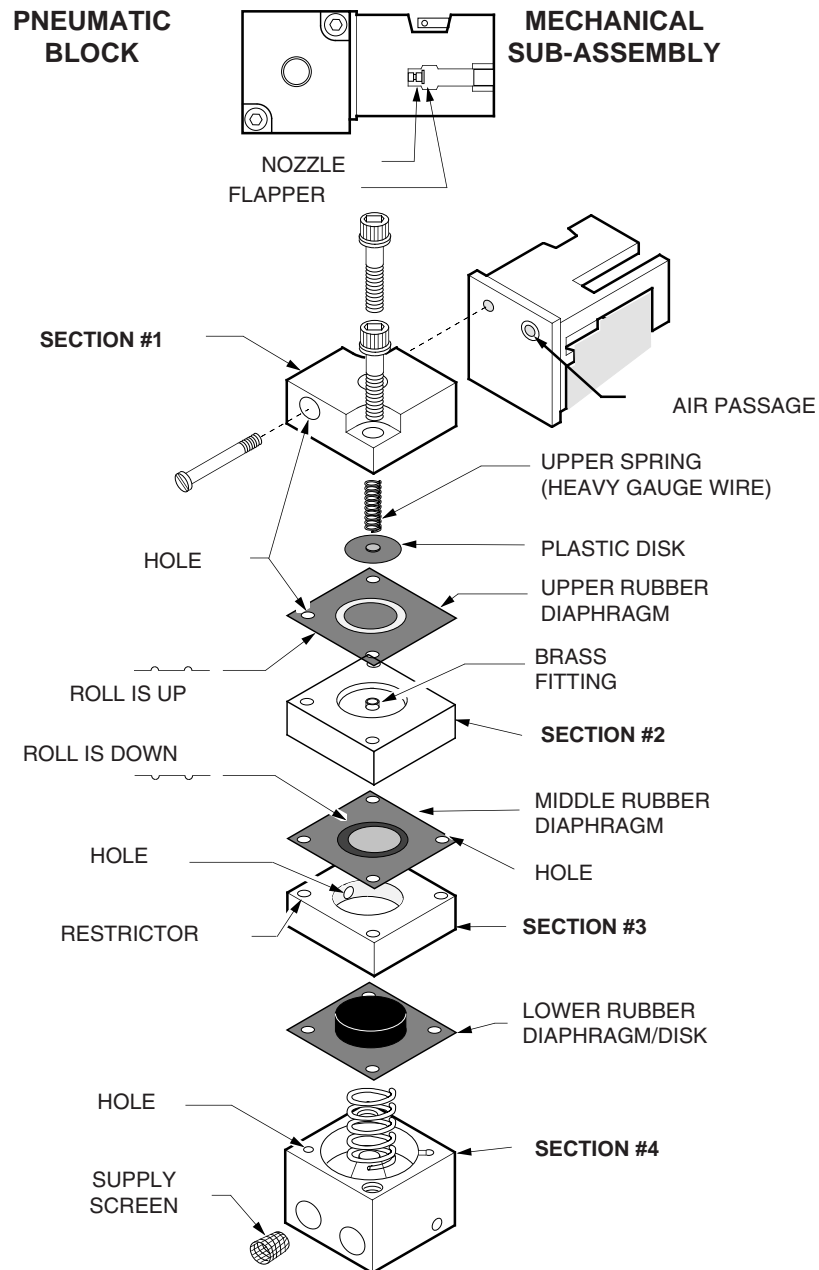

Figure 7. IPF Internal Assemblies
Separate sub-assemblies by removing the single, slotted-head screw in the side of section #1 of the pneumatic block, which is shown in figure 7.
2. Use syringe to fill flapper air passage with trichloroethane (TCE). See figure 7.
Refer to figure 7 to disassemble the IPF pneumatic block, and when performing the following:
2. Dip cleaning wire in TCE, and use it to clean orifice #1, the air passage between block and mechanical subassembly (see figure 7).